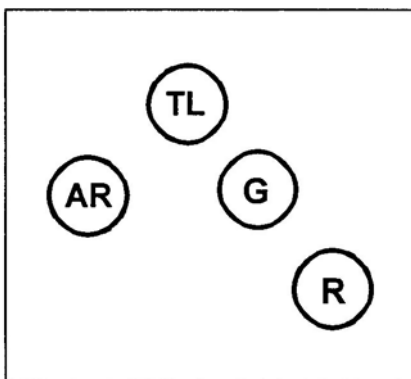
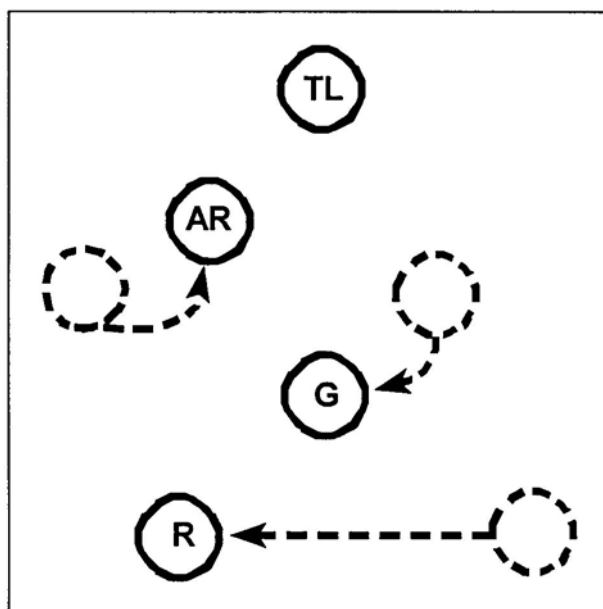
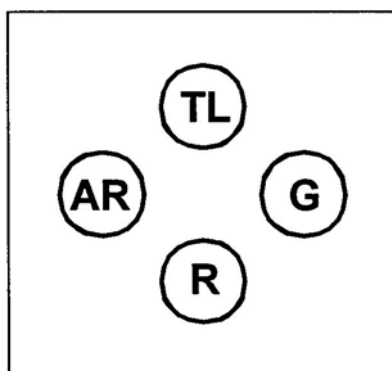
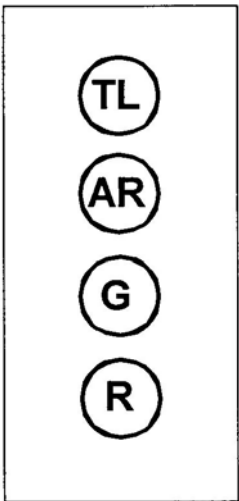

Figure 1
Figure 2
Figure 3
Figure 4
1. Fire team formations describe the relationship of the soldiers in the fire team to each other. Standard fire team formations are the wedge (Figure 1), modified wedge (Figure 2), diamond (Figure 3), and file (Figure 4).
- a. Fire team wedge (Figure 1). This is the basic fire team formation. It has the following characteristics:
- (1) Is easy to control.
- (2) Is flexible.
- (3) Allows immediate fires in all directions.
- (4) Provides all-round local security.
- b. Modified wedge (Figure 2). When rough terrain, poor visibility, or other factors reduce control of the wedge formation, the sides are closed up to (almost) a single file. When moving in less rugged terrain and control becomes easier, soldiers resume their original positions. The modified wedge can also be used for extended periods when traveling on roads or trails. It has the following characteristics:
- (1) Is easier to control in reduced visibility or rough terrain.
- (2) Provides less security to flanks than a wedge but more than a file.
- (3) Masks fires initially to the front and rear for the majority of the team.
- c. Fire team diamond (Figure 3). This formation is a variation of the wedge. It is most often used when the fire team is operating alone or is the lead security element (point) for a column or file. It has the same characteristics as a wedge except there is--
- (1) Reduced frontage.
- (2) Increased security to the rear.
- (3) Immediate fires in all directions, but one man's fires are always masked.
- d. Fire team file (Figure 4). When the fire team is not using a wedge or diamond formation, it uses the file. The characteristics of the file are--